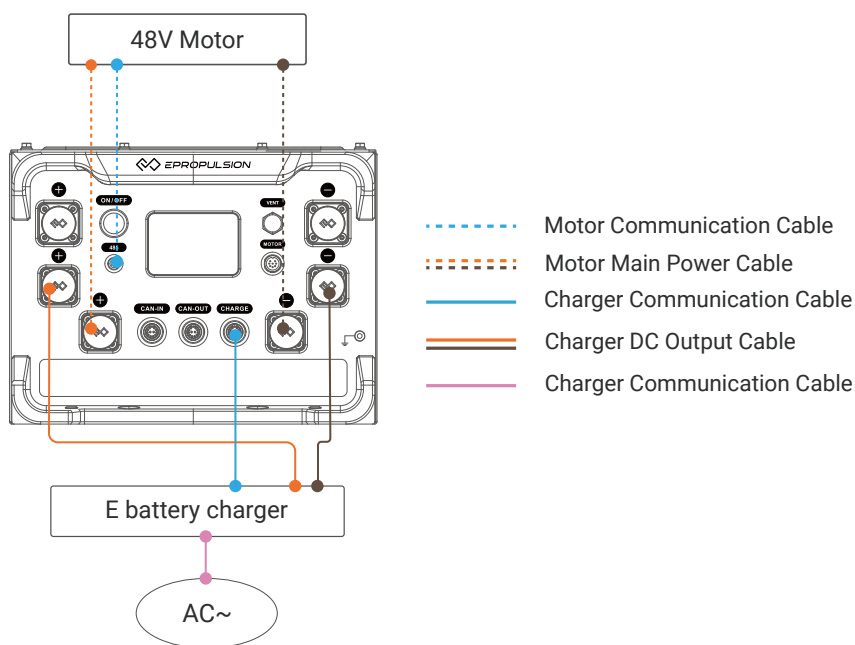

Figure 2-1
2. If connecting to an epropulsion outboard motor, in order to better obtain power information, please correctly connect the machine and battery with the communication cable of the outboard motor. If connecting with the control system by wire, please connect with the communication cable of the control system (refer to figure 2-1).